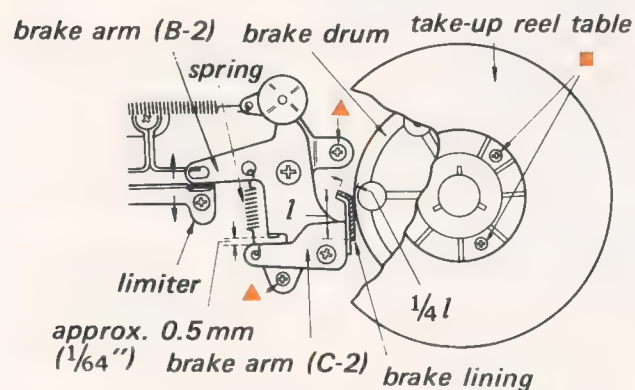
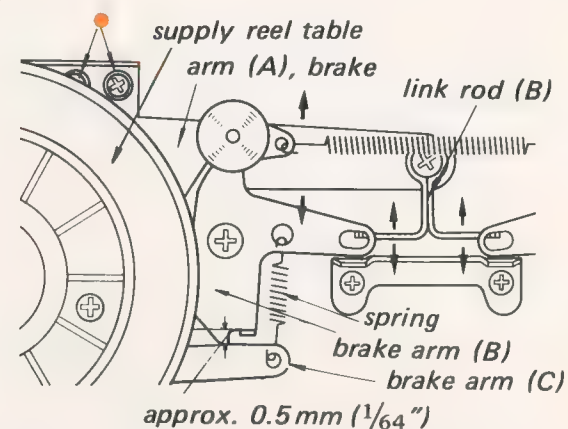

Fig. 3-1-7. Brake torque adjustment (1)
Fig. 3-1-8. Brake torque adjustment (2)
See Fig. 3-1-7 and 3-1-8. Brake torque adjustment is required if:
- (1) Remove the Reel Panel, referring to the "Reel Panel Removal" in page 11.
- (2) Take off the two screws shown by the mark ■ in Fig. 3-1-7, and remove the Reel Table.
- (1) Set the unit to the stop mode.
- (2) Loosen the two screws shown by the mark ▲ in Fig. 3-1-7.
- (3) Adjust by positioning the Brake Arm horizontally so that the one-fourth part of the Brake Lining from the end of bent portion contacts with the Brake Drum (See Fig. 3-1-7).
- (4) Fix the two screws shown by the mark ▲ in Fig. 3-1-7, tentatively.
- (5) Place an empty reel with string wound several turns counterclockwise < clockwise > on the hub (44 mm dia) onto the reel table. Tie the string to the spring scale. Pull the spring scale horizontally and at a constant speed. Check the reading for brake torque. It should be 300 g-cm to 500 g-cm (4.2 oz-inch to 7.0 oz-inch). Adjust the position of the Brake Arm by loosening the two screws shown by the mark ▲ in Fig. 3-1-7, if necessary, to obtain the specified brake torque and then fix the two screws.
- (6) Set the unit to the play mode. Check that the clearance between the Brake Lining and the Brake Drum is 0.5 mm ($\frac{1}{64}$ "). To obtain the specified clearance, loosen the two screws shown by the mark ● in Fig. 3-1-8, and adjust the brake arm (A) by moving in the directions shown by the arrows in Fig. 3-1-8.
- (7) If necessary, bend the Link Rod (B) in the directions shown by the arrows in Fig. 3-1-8.
- (2) Place an empty reel with string wound several turns clockwise < counterclockwise > on the hub (44 mm dia) onto the reel table. Tie the string to the spring scale. Pull the spring scale horizontally and at a constant speed. Check the reading for brake torque. It should be 1,000 g-cm to 1,400 g-cm (14 oz-inch to 19 oz-inch). Bend the Limiter in the direction shown by the arrows in Fig. 3-1-7 to obtain the specified brake torque.
- (3) Make sure that the Brake Arm (B-2) contacts with the Limiter and that the clearance between the convex part of the Brake Arm B-2 < B > and the Brake Arm C-2 < C > is 0.5 mm ($\frac{1}{64}$ ") or more as shown in Fig. 3-1-7 & Fig. 3-1-8.
- (4) If the clearance is less than 0.5 mm ($\frac{1}{64}$ "), expand the spring shown in Fig. 3-1-7 & Fig. 3-1-8.